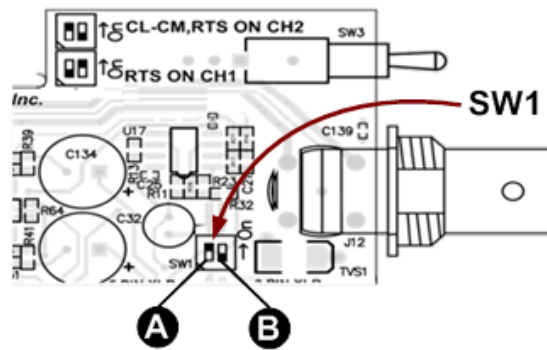

Fig. 4-9: Two-Wire Intercom Configuration Dip Switches
- **Two-Wire Interface - RTS or Clear-Com (switchable):** connect the CopperHead Pro Base Station to a two-wire intercom system like any other intercom component (such as a belt pack or station). Internal dip switches (see Figure 4-9) are used to set the two-wire intercom configuration.